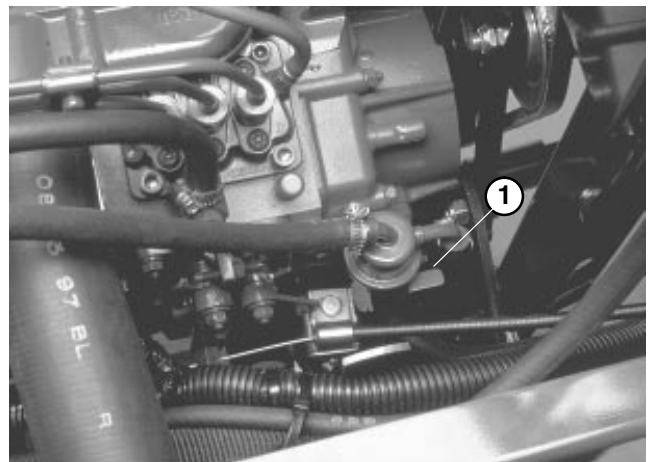

Figure 31
3. Pump lever on fuel pump (Fig. 31) until a solid stream of fuel flows out around screw. Tighten air bleed screw.
5. Pump lever on fuel pump (Fig. 31) until a solid stream of fuel flows out around screw on fuel injection pump. Tighten air bleed screw.